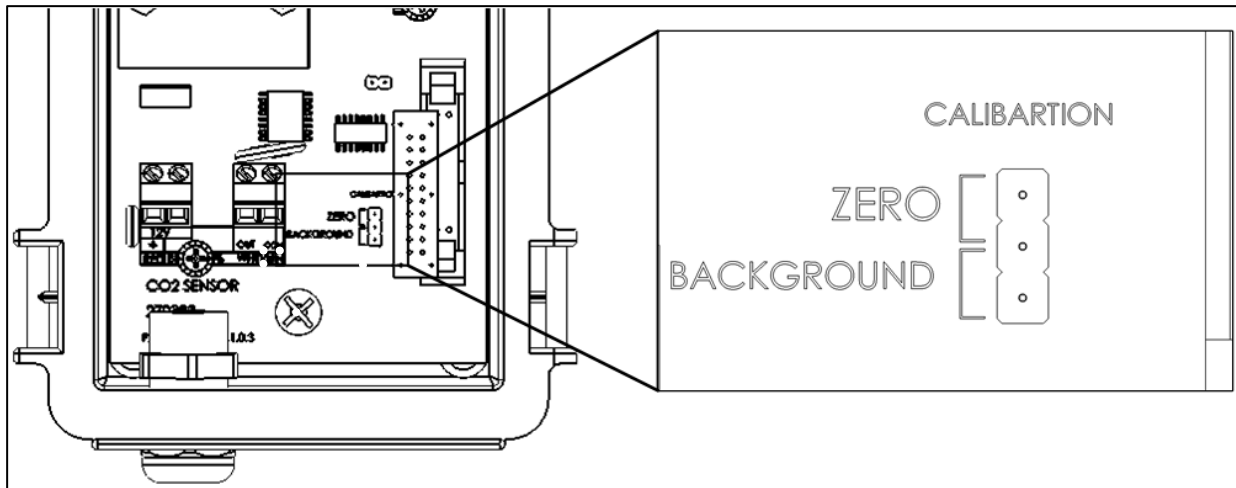

Figure 15: Jumpers
5. Using the supplied jumper, short the Background jumpers for 10 seconds as shown in Figure 15.